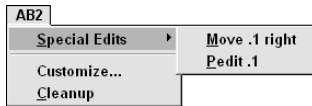

**Figure 33-10:** The AB2 menu, including the sub-menu.
17. Look at the menu. It should look like Figure 33-10. Notice the sub-menu and the separator line. (If you don't see it, you may need to re-display your current workspace, which you can do from the Workspaces toolbar.)